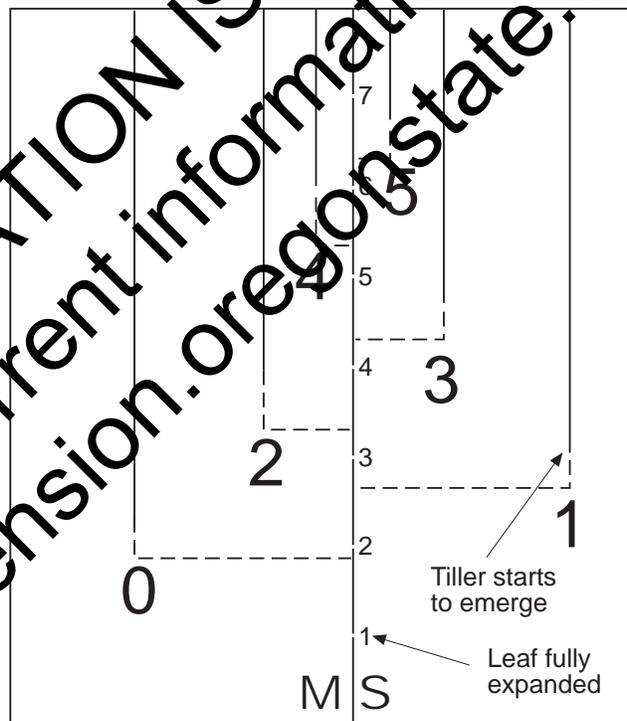

Figure 4. — Relationships of leaf and tiller production in winter wheat based on data for 'Stephens' wheat.
Tiller development is also leaf-driven, but tillers do not appear until well after their parent leaf has extended. In fact, a tiller is not produced at a node until the third leaf above it appears. For example, the tiller forming from node one (T1), the origin of leaf one (L1), appears as the fourth leaf elongates. Tiller 2 develops with the appearance of leaf five. Figure 4 shows in schematic form the development pattern for a typical wheat plant. The middle vertical line shows the number of leaves on the main stem (MS). The other vertical lines represent tillers. For example, 0 represents T0, the coleoptile tiller; 1 represents T1, the tiller developing from the first leaf node. By placing a straight edge horizontally across the figure, it is possible to determine how many tillers a plant should have when the main stem has a given number of leaves.
development. If conditions in the field have not limited growth, five leaves should be present on the main stem (100 GDD per leaf) and the T0, T1, and T2 tillers should be present (using Figure 4). If one or several of these structures are missing, you know that some stress has occurred, and you can try to determine the cause. If possible, eliminating this stress in future years may lead to higher plant productivity.